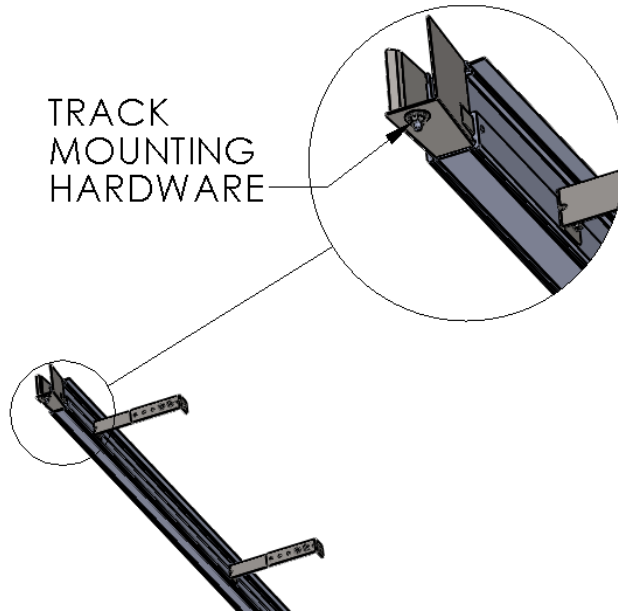

Figure 8 TRACK MOUNTING HARDWARE
1. Starting with either left or right side, loosely “hang” the track assembly by its Track Mounting Hardware. Setup and generally align the track under its respective Roll Assembly Mount Bracket. (Figure 8 TRACK MOUNTING HARDWARE (Figure 8 TRACK MOUNTING HARDWARE)